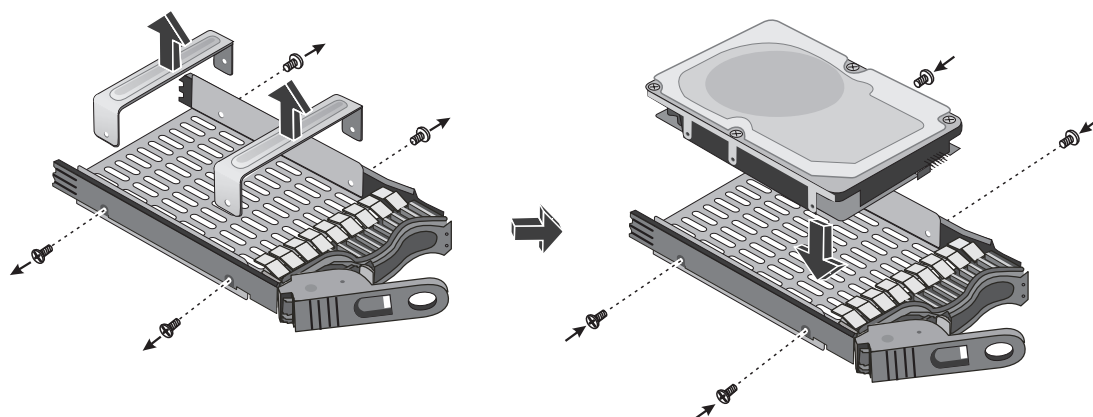

Figure 2-9: Assembling hot swap hard drive and carrier
4. Assemble the hard drive and the carrier. The carrier consists of a rail, a PCA cover, and two support bars. The two support bars should be removed before installing the hard drive. Refer to Figure 2-9.